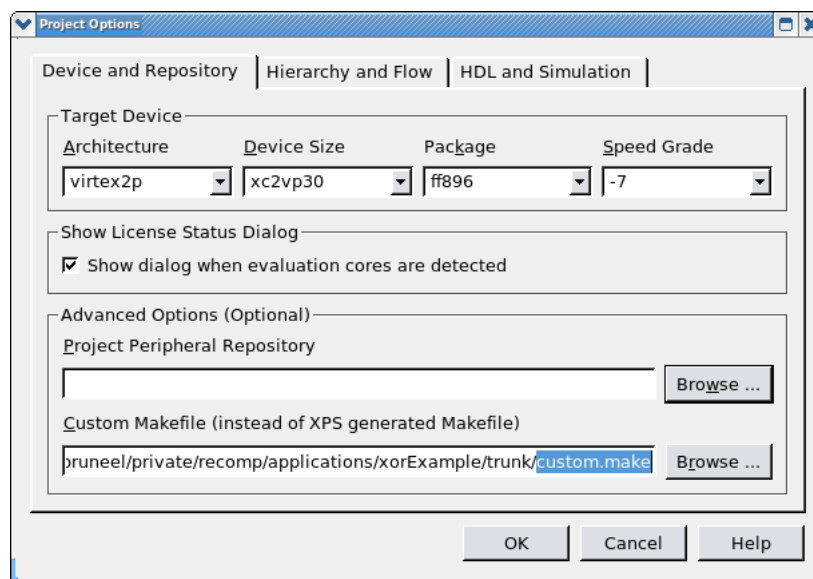

Figure 4.29: Choose ‘custom.make’ as the Custom Makefile. Click Ok
- Click “Project Options...” in the “Project” menu and choose ‘custom.make’ as the Custom Makefile (Figure 4.29).